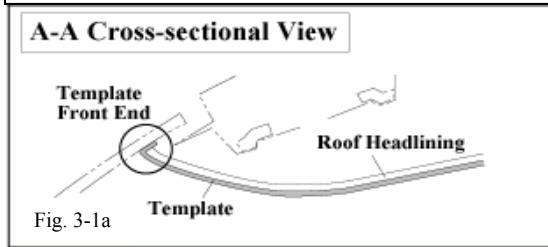

Fig. 3-1a
- (a) Securely insert the front edge of the cutting template between the roof headlining and windshield, to support front edge of the template, as shown Fig. 3-1a.